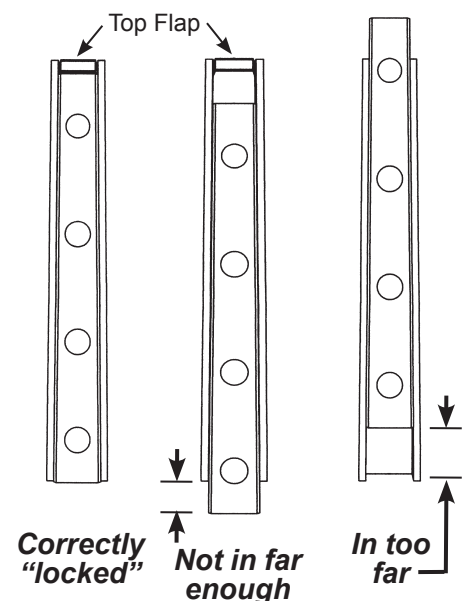

Figure 4
Important: Wedges are correctly "locked" when the inner wedge comes into contact with the top flap of the outer wedge, and the bottom edges align, as shown in figure 4. Avoid excessive force or damage to the wedges may occur.
TROUBLESHOOTING TIP: If chair does not sit level on the floor, check that all wedges are correctly "locked" as shown in figure 4.
8. With scrap cardboard or other protective material over the fabric, use a rubber mallet (not a standard hammer) to gently tap the seat and back cushions until the interlocking wedges are "locked" together. Refer to figure 4 on opposite side of this sheet.
TROUBLESHOOTING TIP: If chairs do not sit level on the floor, check that all wedges are correctly "locked" as shown in figure 4 on opposite side of this sheet.